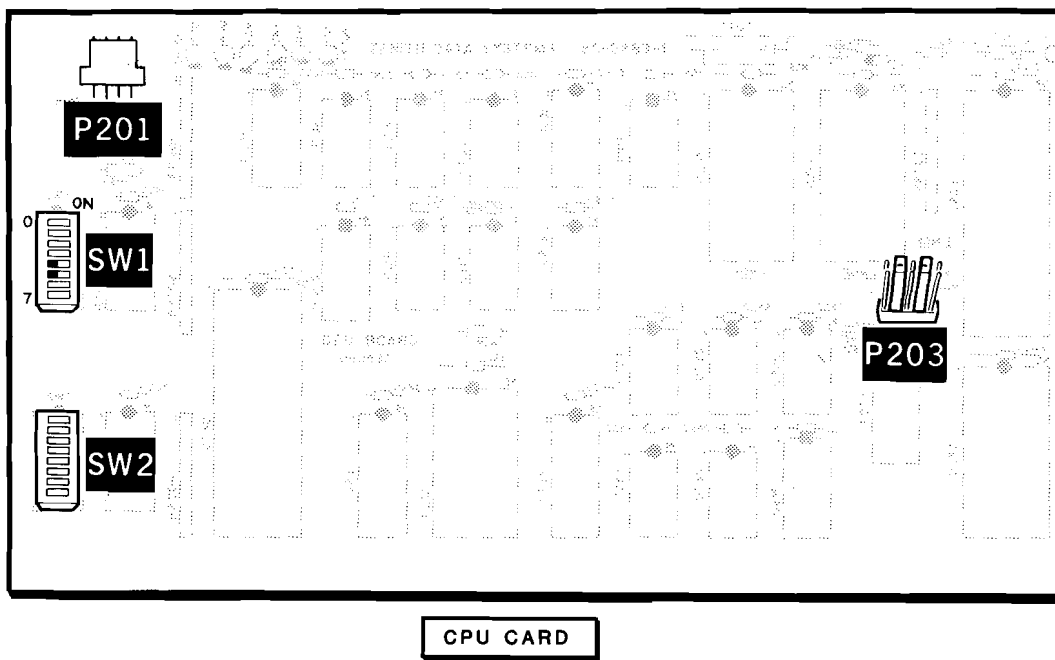

Figure 2.6. CPU Card Switch Setting
- Locate SW1 (Figure 2.6) and set switch sections 4 and 5 to the OFF (left) position.